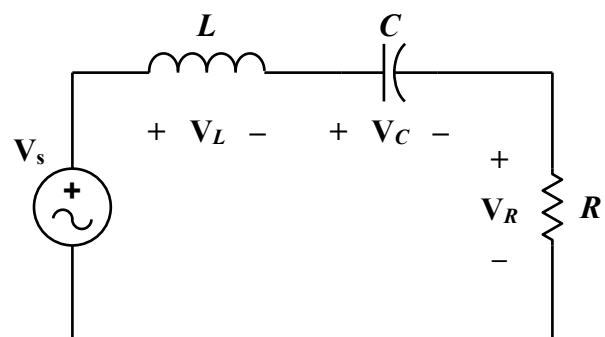

Figure 11.1 RLC Circuit.
Consider the basic RLC series circuit of **Figure 11.1** subjected to a sinusoidal source having frequency ω (rad/sec); e.g., $v_s(t) = V_s \cos \omega t$.
Consider **Equations 11.7–11.9** and **Figure 11.1**. If the frequency is small, i.e., $\omega \rightarrow 0$, or DC, the amplitudes of the voltages across the components are:
At **resonance**, the amplitude of the output voltage V_R is as large as it can be for all values of ω . In the simple series circuit of **Figure 11.1**, $V_{R,max} = V_s$. In general, the resistor is part of a larger system, so $V_{R,max}$ is not generally equal to the amplitude of the source.
For the basic RLC circuit of **Figure 11.1**, V_R equals $0.707V_{R,max}$ when the denominator of **Equation 11.7** equals $\sqrt{2}$. This occurs when the resistance and magnitude of the reactance are equal:
3. Calculate the expected **angular resonant frequency** ω_0 and the expected **circular resonant frequency** f_0 of the basic RLC series circuit in **Figure 11.1** using the measured component values. Record in **Table 11-1**.
5. Build the circuit shown in **Figure 11.1**.